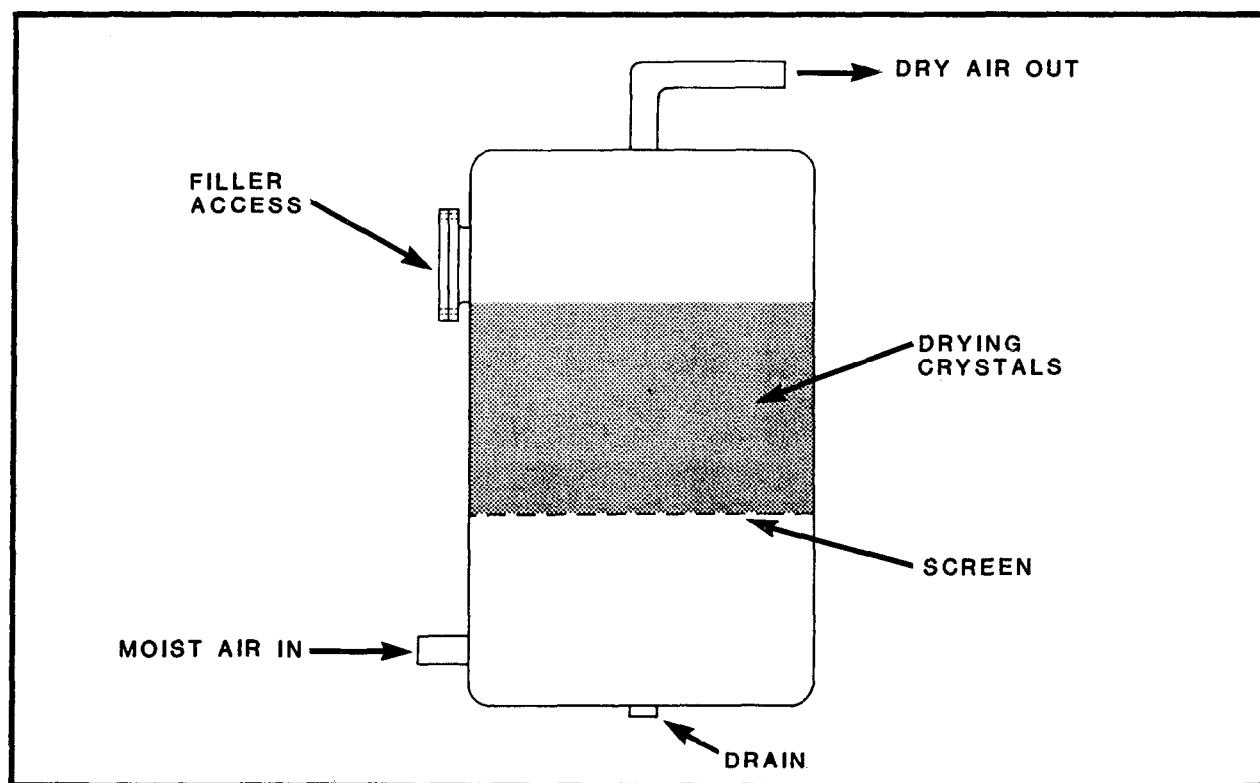

FIGURE 4-10. Deliquescent (Absorption) Dryer
2.2 Deliquescent (Absorption) Type. The deliquescent or absorption dryer is lowest in initial cost but requires continual replenishment of the drying medium (figure 4-10). Simple in design, this type of dryer is a pressure vessel in which a bed of crystalline solids is placed on top of a screen which is located close to the bottom of the vessel. Wet air from the aftercooler and separator enters the bottom of the vessel and flows upward through the bed. As it passes through the bed, the liquid water and vapor present in the air, dissolve the drying medium in what is termed a deliquescent effect. The resulting solution trickles to the bottom of the dryer where it is removed by a trap. The frequency with which the crystalline absorbent material must be replaced is a function of the design thickness of the bed and the amount of water and vapor present in the air entering the dryer.